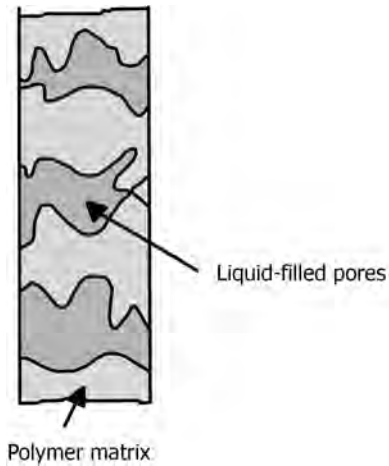

FIGURE 18.45 Liquid membrane.
- Figure 18.45 illustrates a liquid membrane.